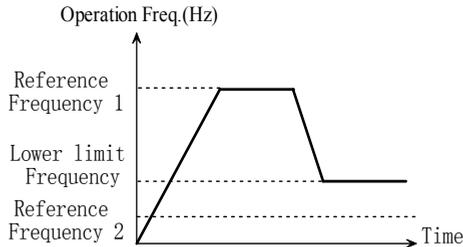

Fig. 5-2-3 Running at Frequency lower limit
- ◆ If setting is 0, when the reference frequency is lower than frequency lower limit, the ac drive will run at frequency lower limit instead of reference frequency. As shown in Fig. 5-2-3.